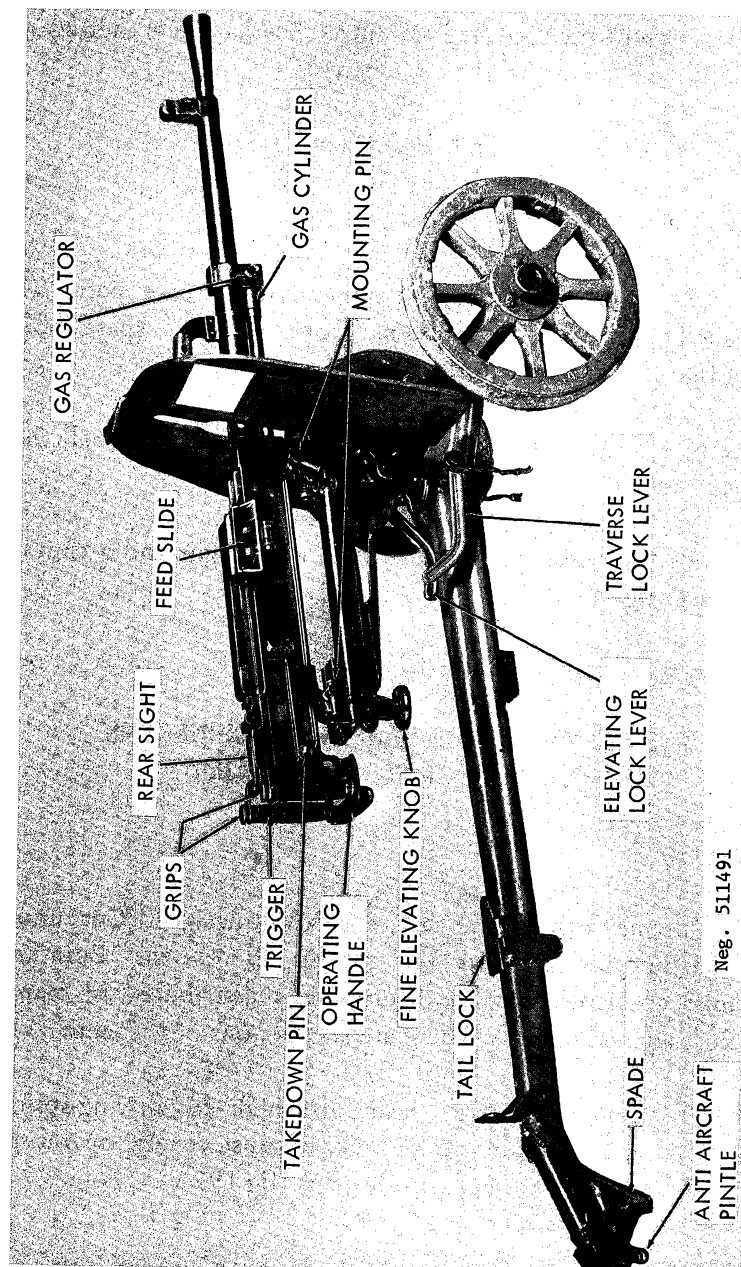

Figure 192. Goryunov SG-43 heavy machinegun.
SG-43: Smooth barrel, sear attached to driving-spring guide, plain barrel lock, no dust covers, operating handle between spade grips (fig 192).
e. To fire, aim (using a normal sight picture), lift up the safety with the thumb of one hand, and press forward on the trigger (fig 192) with the other thumb. The bolt will remain open between bursts, but will remain closed on an empty chamber when the last round has been fired.
(1) Clear the gun (para 217f), but do not close the feed covers.
(2) If the weapon is an SG-43 or SG-43M, pull the takedown pin (fig 192) to the right and remove the backplate. If the gun is an SGM, SGMT, or SGMB, depress the detent in the latch on the top center of the backplate and slide the latch to the rear. Rotate the backplate to the right until it can be removed. Pull out the driving spring.
b. The guns with pin-type mount adapters are installed by positioning them on their mounts and inserting the two mounting pins (fig 192). The guns with clamp-type mount adapters (fig 195) are installed by starting curved flanges on the front mount adapter into their seats on the mount; the rear of the gun is then pressed down into its bracket and insure that the locking handle is as far rearward as possible.